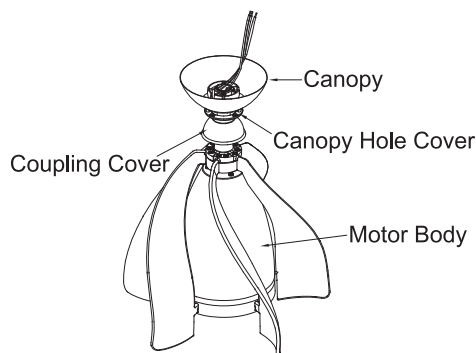

Fig. 11
Step 2. Slip the coupling cover, canopy hole cover and canopy onto the downrod. Carefully reinstall the hanger ball onto the downrod . Make sure the cross pin is in the correct position and the set screws are tight and the wires are not twisted. (Fig. 11)